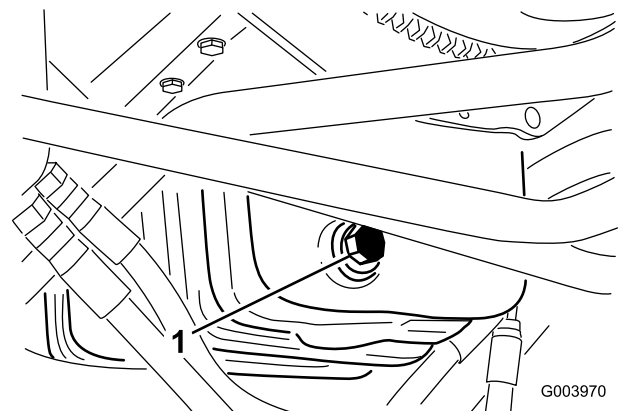

Figure 40
1. Remove the drain plug (Figure 40) and let the oil flow into a drain pan.